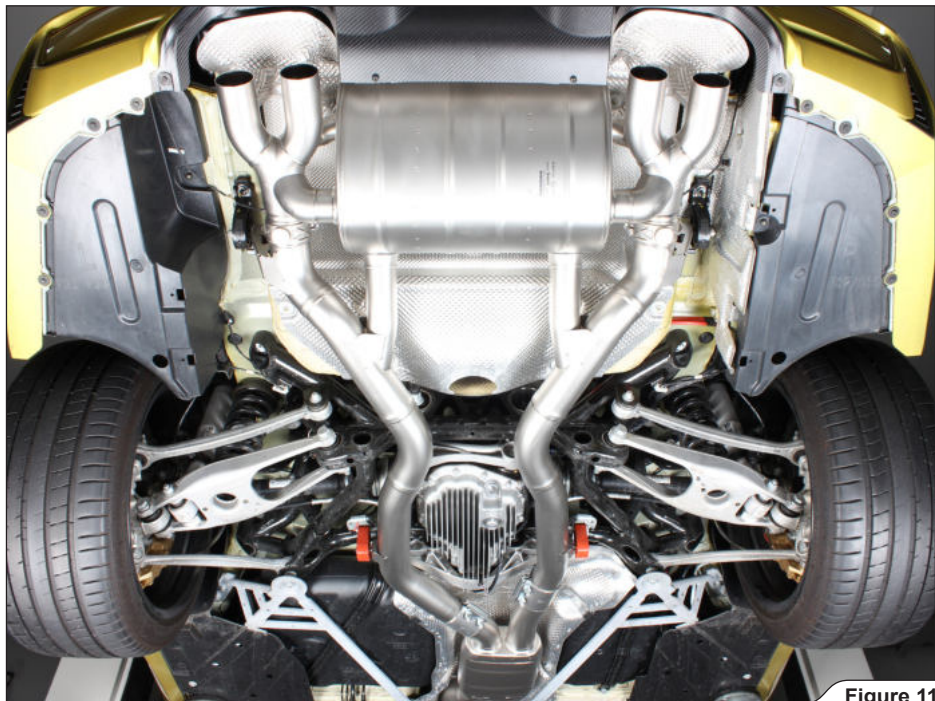

Figure 11
- Slide the muffler's inlet pipes into the double clamps and install the Akrapovič Slip-On muffler in reverse order, from the order in which it was disassembled; check the **Slip-On** exhaust system installation manual for details (**Figure 11**).